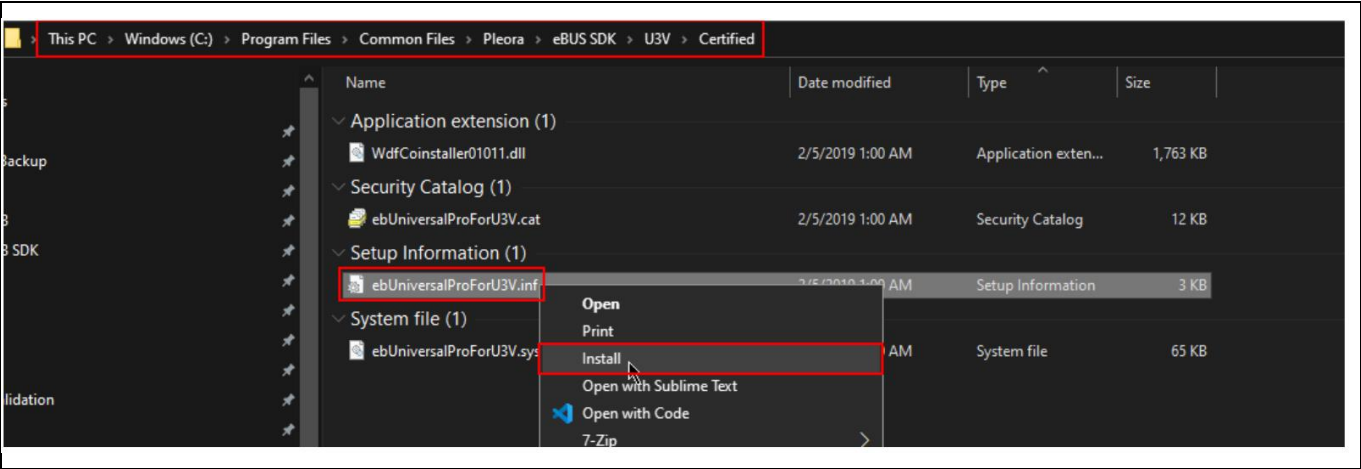

Figure 17 Installing driver for USB3 Vision player (eBUS player)
8. If FX3 is not detected, go to “C:\Program Files\Common Files\Pleora\eBUS SDK\U3V\Certified” and install the U3V driver as shown in Figure 17.